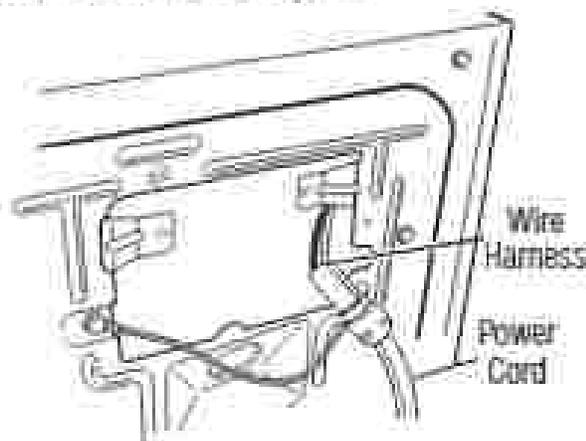
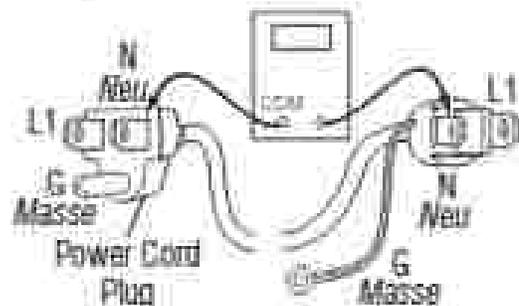

Figure 4 • Power cord-to-wire harness connection for gas dryer
Figure 5 • Power cord terminals, gas dryer
3. Check that the power cord is firmly connected to the dryer's wire harness. See figure 4.
5. With an ohmmeter, check for continuity between the neutral (N) terminal of the plug and JS-3 (white wire) on the ACU. The left-hand side of figure 5 shows the position of the neutral terminal (N) on the power cord plug. Also see figure 2, page 3-9.
- If there is no continuity, disconnect the white wire of the main harness from the power cord at the location illustrated in figure 4. Test the continuity of the power cord neutral wire as illustrated in figure 5. If an open circuit is found, replace the power cord. Otherwise, go to step 6.
- If there is no continuity, check the continuity of the power cord in a similar way to that illustrated in figure 5, but for power cord's L1 wire.
10. Using Figure 5 and the strip circuit below, check for the resistance values of the motor's Main and Start winding coils as shown in the following table.